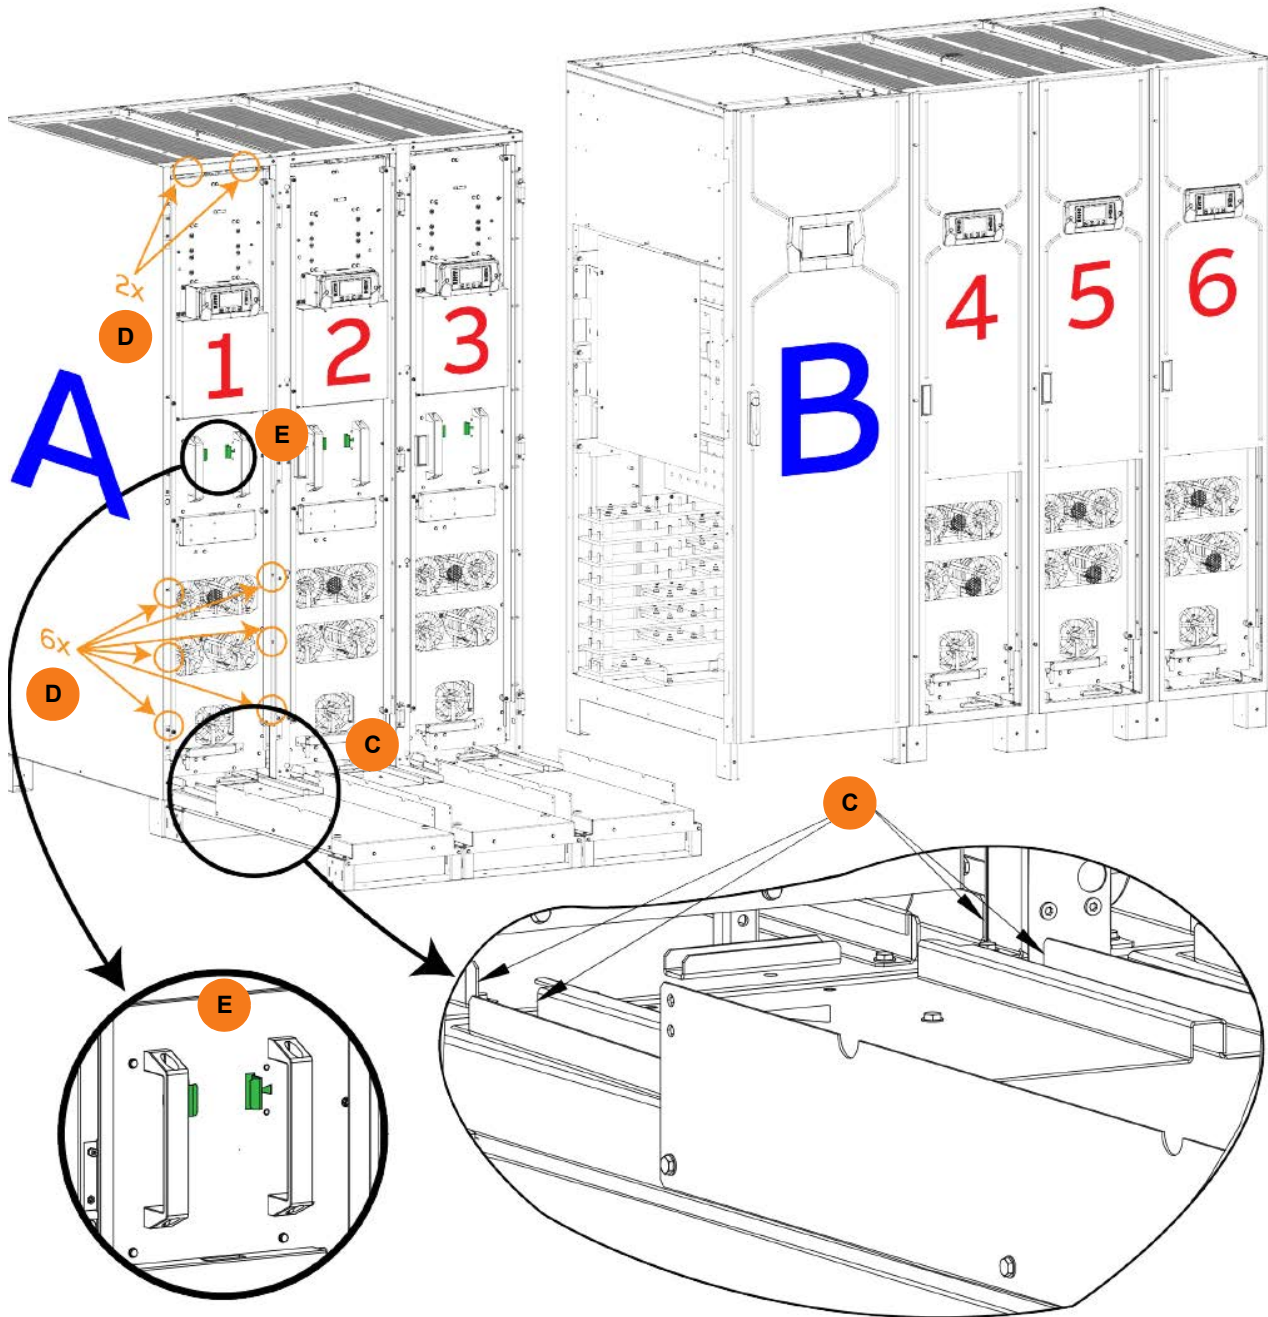

Figure 5.5 Module extraction
Key Point: The MF1500 DPA1500 kVA cabinet is shipped in two containers as shown in Figure 5.5. The two cabinet halves must be joined together using components from the installation kit that is shipped inside the cabinet distribution frame (see Figure 5.4).
2. Move the two cabinet frame assemblies as close as possible to their intended final location and position them adjacent to each other on level ground (see Figure 5.5). Allow at least 600 mm rear access to enable the reassembly.
- a) In Frame A, place a module extraction slider in front of the UPS module with the runners on the top of the slider aligned to the runners in the module's frame, as shown in Figure 5.5 (C).
- b) Remove the 8 screws securing the UPS module to the cabinet frame, as shown in Figure 5.5 (D).
- d) Unlock the UPS module from the frame by pressing sideways on the two yellow tabs located between the UPS module handles, as shown in Figure 5.5 (E) (shown green in the illustration for reasons of clarity).
- e) Whilst holding the two locking mechanism tabs pressed inwards, use the handles on the front of the UPS module (Figure 5.5 (E)) to withdraw the UPS module onto the module extraction slider between the guide rails.
Note: The UPS modules should be inserted in the reverse order that they were removed (i.e. the module closest to the centre of the cabinet should be fitted first). In this example the modules should be refitted in the order of module 3, module 2 then module 1. – see Figure 5.5.
- d) Whilst holding the two yellow locking mechanism tabs pressed inwards, use the handles on the front of the UPS module (Figure 5.5 (E)) to insert the UPS module onto the module extraction slider between the guide rails.
- f) Fit the 8 screws securing the UPS module to the cabinet frame, as shown in Figure 5.5 (D).